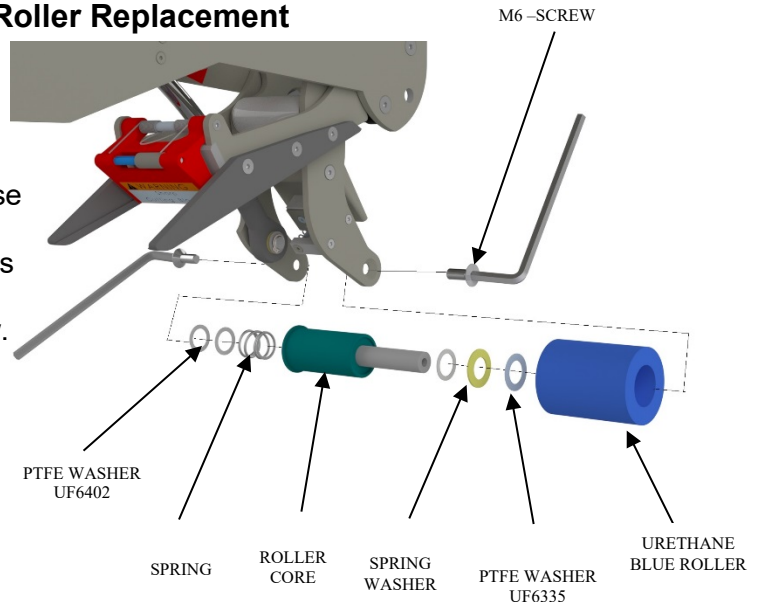

Figure 10-3
5. To reinstall back into the roller arm, refer to **Figure 10-3**. for an exploded view. The smaller PTFE washer (UF6402) will go to the clutch bearing side, the bigger PTFE washers (UF6335) and the disc spring (UF4401) go into the recessed side of the roller core.